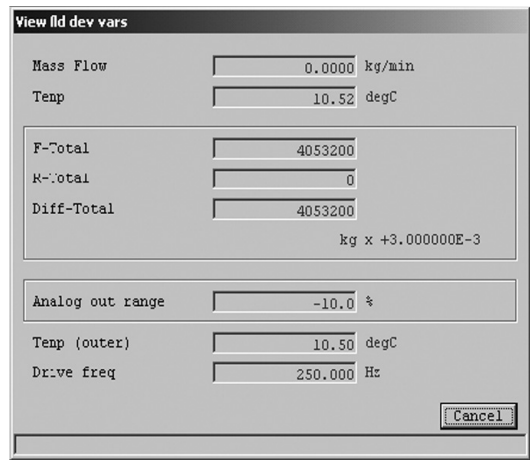

Fig.17
② A message box for measuring process variables appears as shown in Fig. 17.